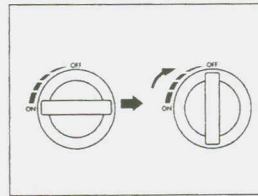

Fig.24
2. After using, turn knob to OFF position, and make sure the flame is out. (Fig. 24)